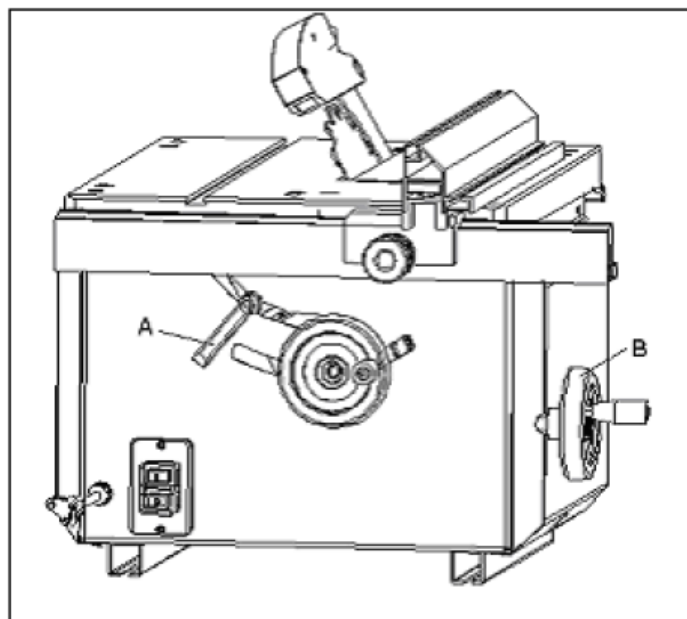

Fig.15
- 1) Release lock knob A (Fig. 15).
- 2) Lower the saw blade up to 45° by applying pressure to hand wheel B (Fig. 15).